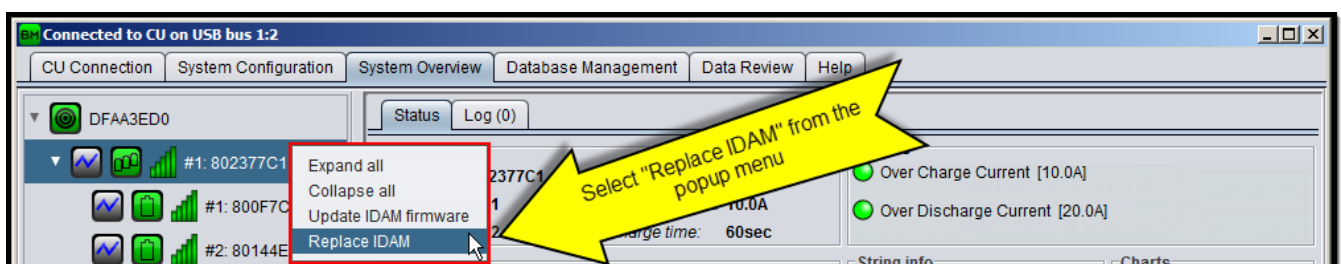
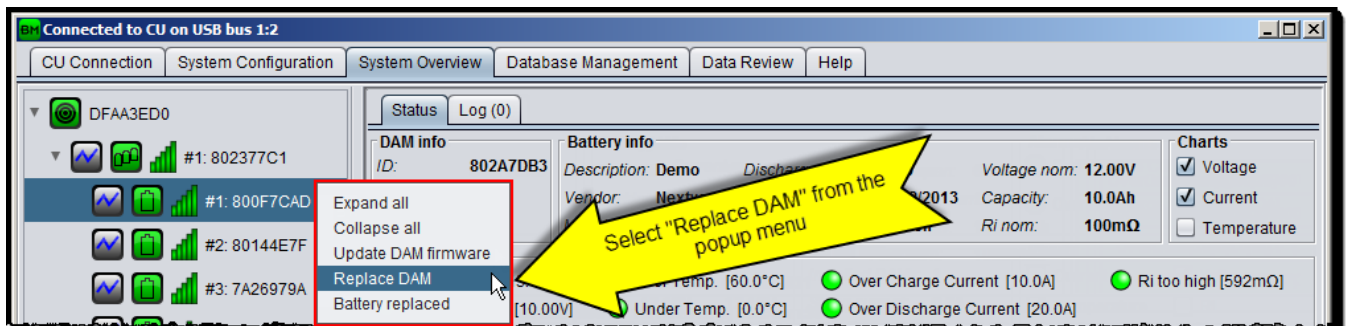

Figure 45: Replace IDAM
Figure 48: Replace IDAM
1. Right click on the string icon to activate the context menu as shown on Figure 45.
1. Right click on the battery icon to activate the context as shown on Figure 48/Figure 45.